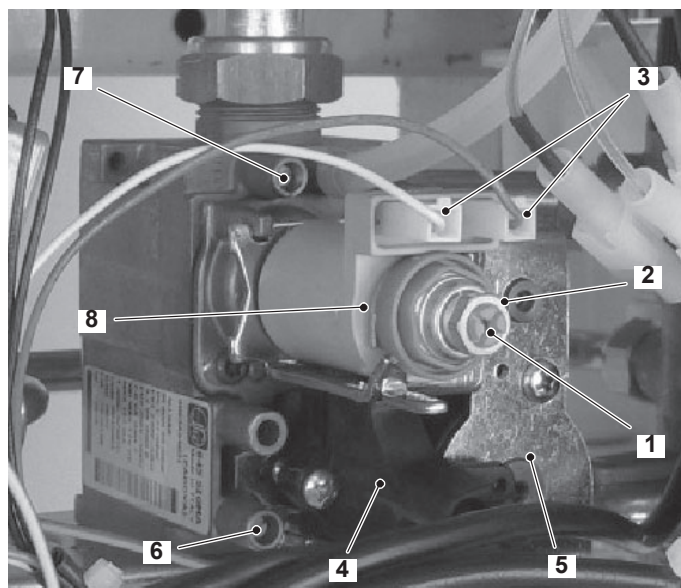

Figure 9.2
9.2 Nomenclature of the parts - (Figure 9.2)
- 2 Open the gas valve inlet pressure test point (6 in Figure 9.2) at the valve input, connect a suitable pressure gauge and check the gas pressure of the supply network.
- 4 Open the gas valve outlet pressure test point (7 in Figure 9.2) and connect the gauge;
- 7 Rotate the maximum gas pressure adjustment (2 in Figure 9.2) until you obtain the required pressure (by rotating clockwise the pressure increases).
- 8 Turn the boiler off and disconnect one of the two connectors (3 in Figure 9.2).
- 9 Start the boiler and rotate the minimum gas pressure adjustment (1 in Figure 9.2) until you obtain the required pressure